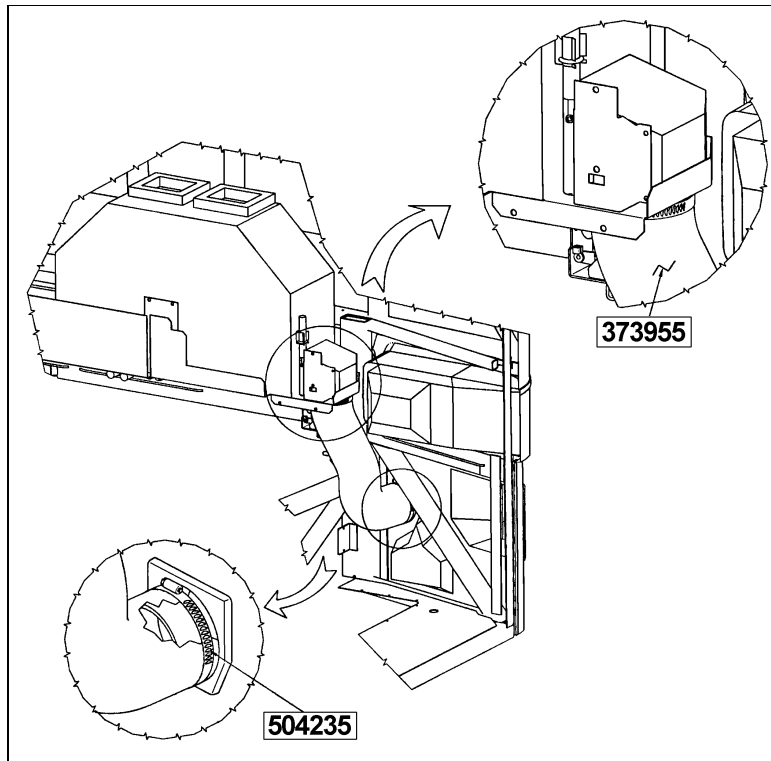

FIGURE 4
8. Install remaining hose clamp to secure flexible hose onto the flange (refer to figure 4).